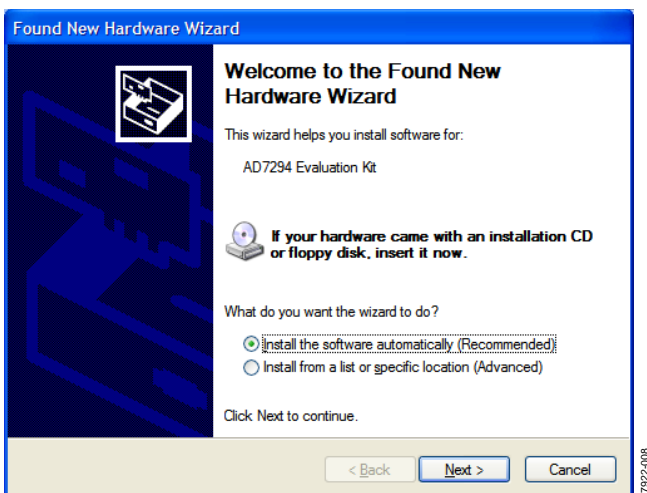

Figure 8. Found New Hardware Wizard
- The **Found New Hardware Wizard** window appears (see Figure 8). This wizard installs software for the AD7294 evaluation kit.
- Select **Install the software automatically (Recommended)** (see Figure 8), and then click **Next** to continue.